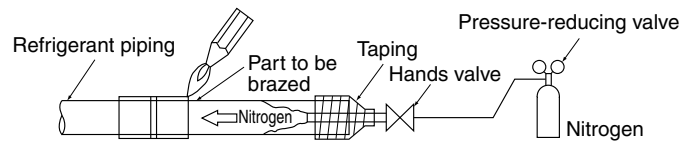

Fig. 17
- Nitrogen should be set to 2.9psi with a pressure-reducing valve if brazing while inserting nitrogen into the piping. (Refer to Fig. 17)